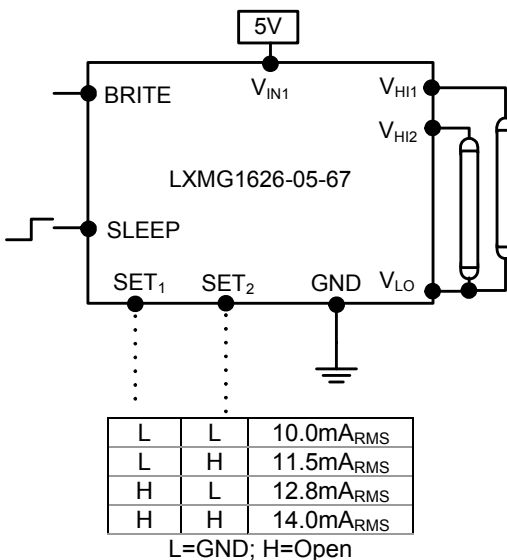

Figure 2 – Max Output Current
- Use the **SET₁** and **SET₂** (see Figure 2) inputs to select the desired maximum output current. Using these two pins in combination allows the inverter to match a wide variety of panels from different manufacturers. Generally the best lamp lifetime correlates with driving the CCFL at the manufacturer's nominal current setting. However the **SET₁** and **SET₂** inputs allow the user the flexibility to adjust the current to the maximum allowable output current to increase panel brightness at the expense of some reduced lamp life.